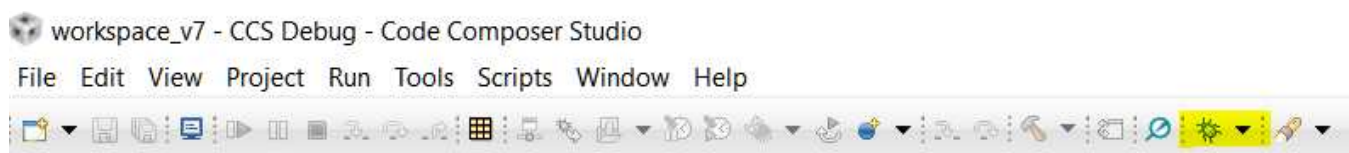

Figure 7. Code Composer "Debug" Button
- 10. Modify the CCS "On Connect" Action:** There are two ways to launch the debug session from CCS. One way is to right click the desired target configuration from the previous step and select "Launch Selected Configuration". Once this is done the target CPU can be connected by right clicking on the CPU core(s) and select "Connect Target". The other way is to use the Debug Button (Figure 7), which not only launches the configuration, but also connects, loads the target program file into memory, and executes to "main". These settings can be modified but this is the default operation. The default actions can be modified by either right clicking on the .ccxml file being used or selecting "Debug Options" from the arrow dropdown next to the Debug button and changing the auto run and launch options in the Target sub-menu. During the troubleshooting phase of this document, it is recommended to use the former method of "Connect Target". This helps to isolate any issues that are not purely JTAG related, but caused by code execution or other system interactions. Once the system is verified to be stable for launching and connecting the target, use the Debug button to handle these steps.